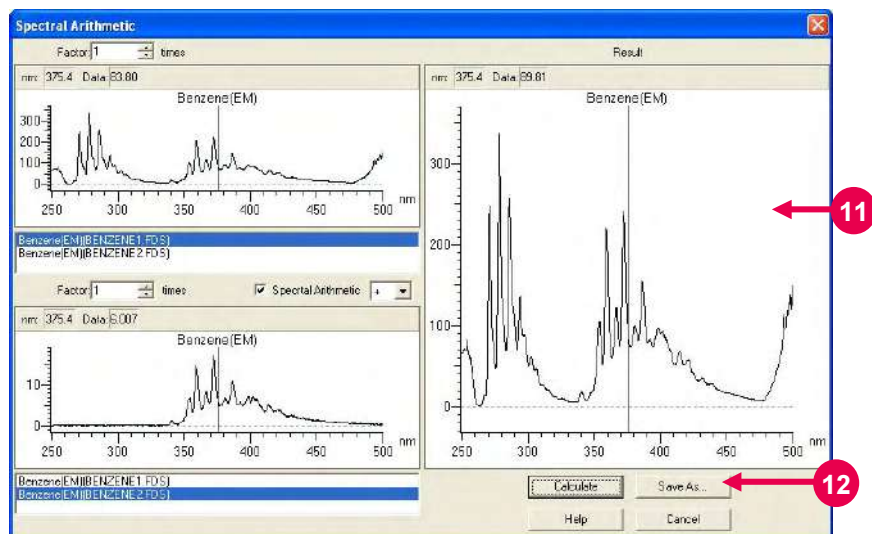

Fig. 7-31 After Arithmetic Operation
- (11) The result of arithmetic operation is displayed as shown in Fig. 7-31. (Refer to ⑪ in Fig. 7-31.)
- (12) Click **Save As**. The result of calculation can be saved in file. (Refer to ⑫ in Fig. 7-31.)